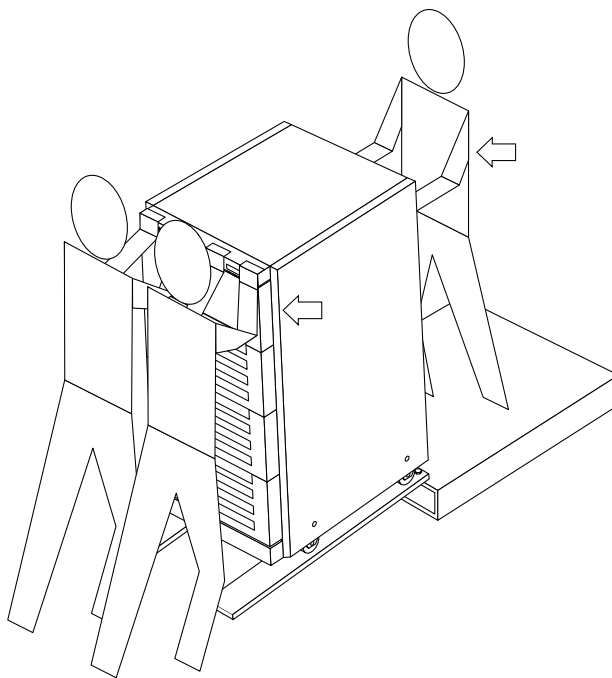

FIGURE 1-1 Moving the Cabinet
3. Use three or more people to move the cabinet safely, as shown in FIGURE 1-1. Two people must restrain the front of the cabinet to control the movement.